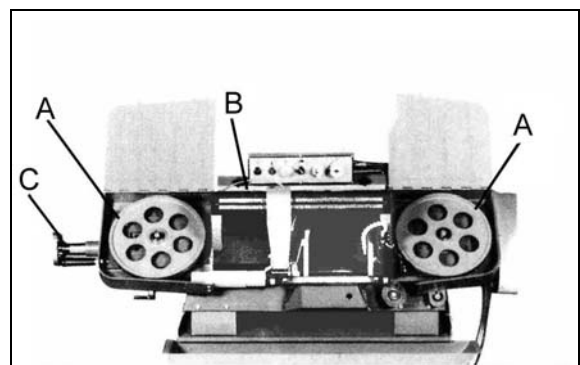

Fig. 1
4. Release blade tension by turning the blade tension handwheel (C) Fig.1 counter-clockwise.
8. Place the blade in place on the wheels (A) and through the upper blade guard. (B) Fig.1.